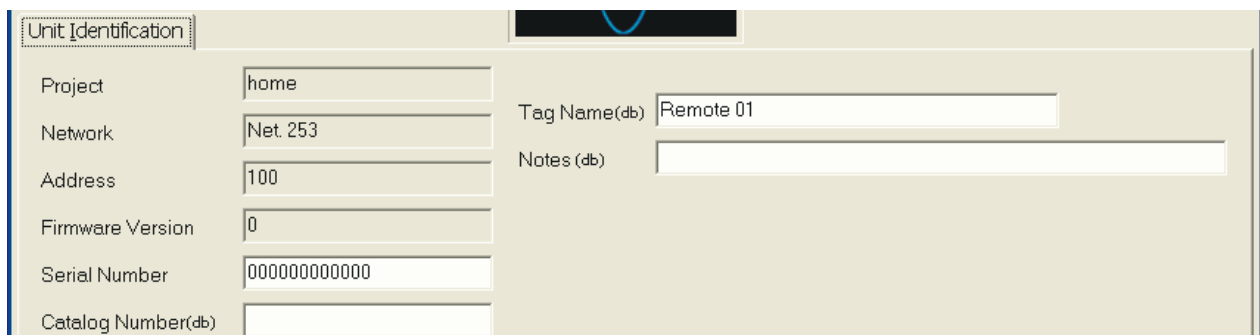

Figure 5 - The editor for the remote control unit
- 12) Once you have assigned the group addresses and functions you must assign the remote control to the plug adaptor. Select the Remotes tab and create a new remote by clicking the green "+" symbol. An editor will appear for the remote control unit (Figure 5).